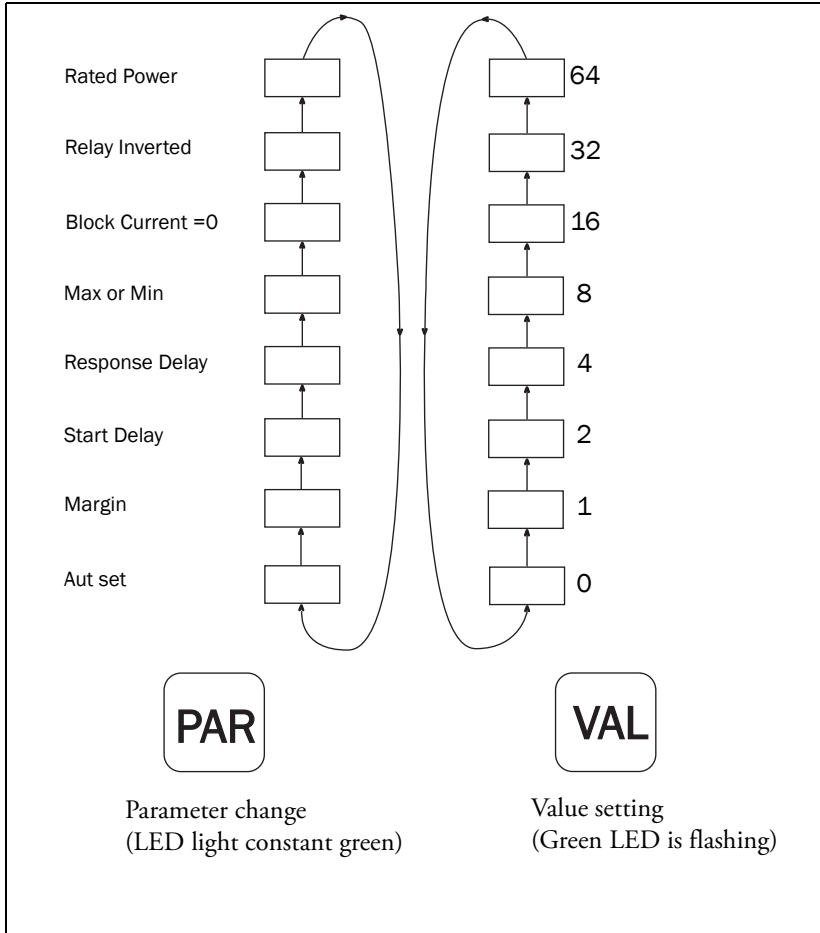

Fig. 6 Parameter change and value setting.
3. Minimum parameters to be set are "Rated Power" and desired relay function "Max or Min", see Chapter 8, Table 2, 3 and Fig. 6.
9. Press **PAR** again and repeat steps 4 to 8 for all parameters except for AUTO SET. See Chapter 8, Table 2, 3 and Fig. 6 for possible value settings for each of the eight parameters.
13. Set/reset e.g. start delay, response delay, margin, etc. if necessary (see Chapter 8, Table 2, 3 and Fig. 6).
4. Keep pressing **PAR** until RATED POWER is selected, see Fig. 6, page 16.
6. Set recommended value according to table 3. Keep pressing **VAL** until chosen value (8) flashes.
10. Confirm chosen value (1) by pressing **PAR**.
13. Confirm chosen value (0) by pressing **PAR**.